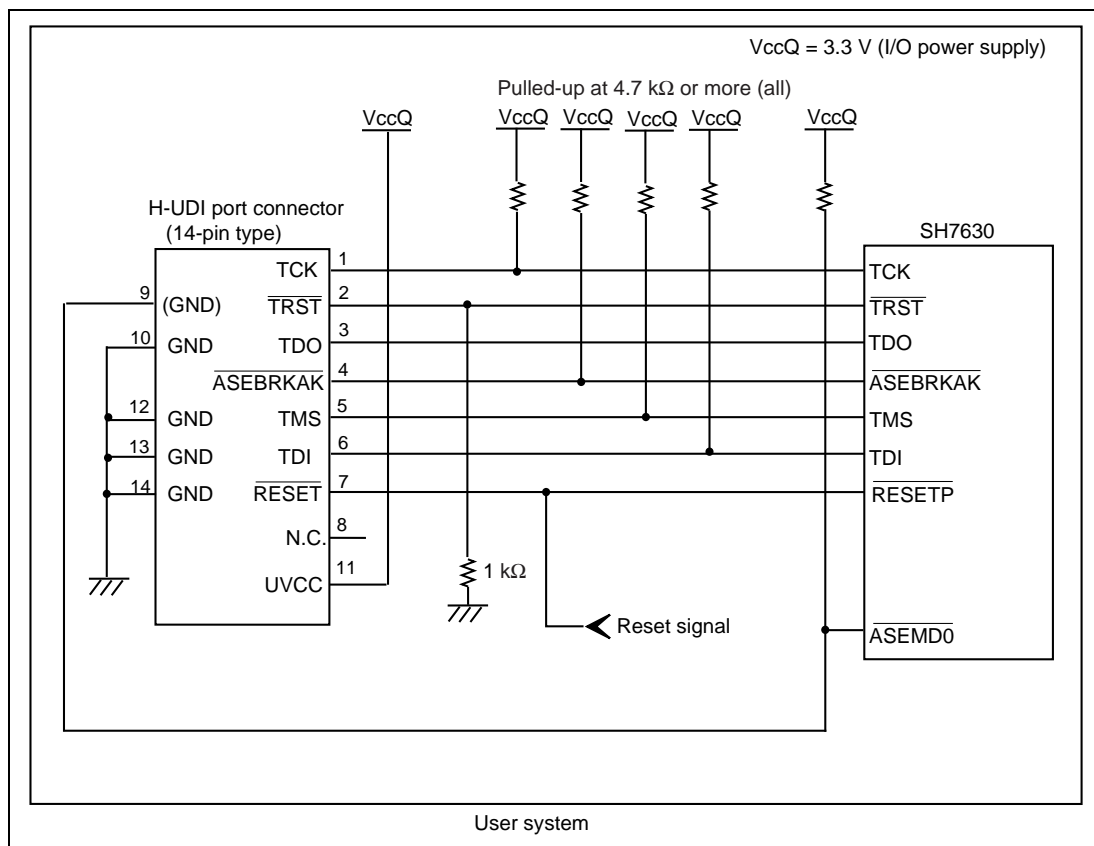
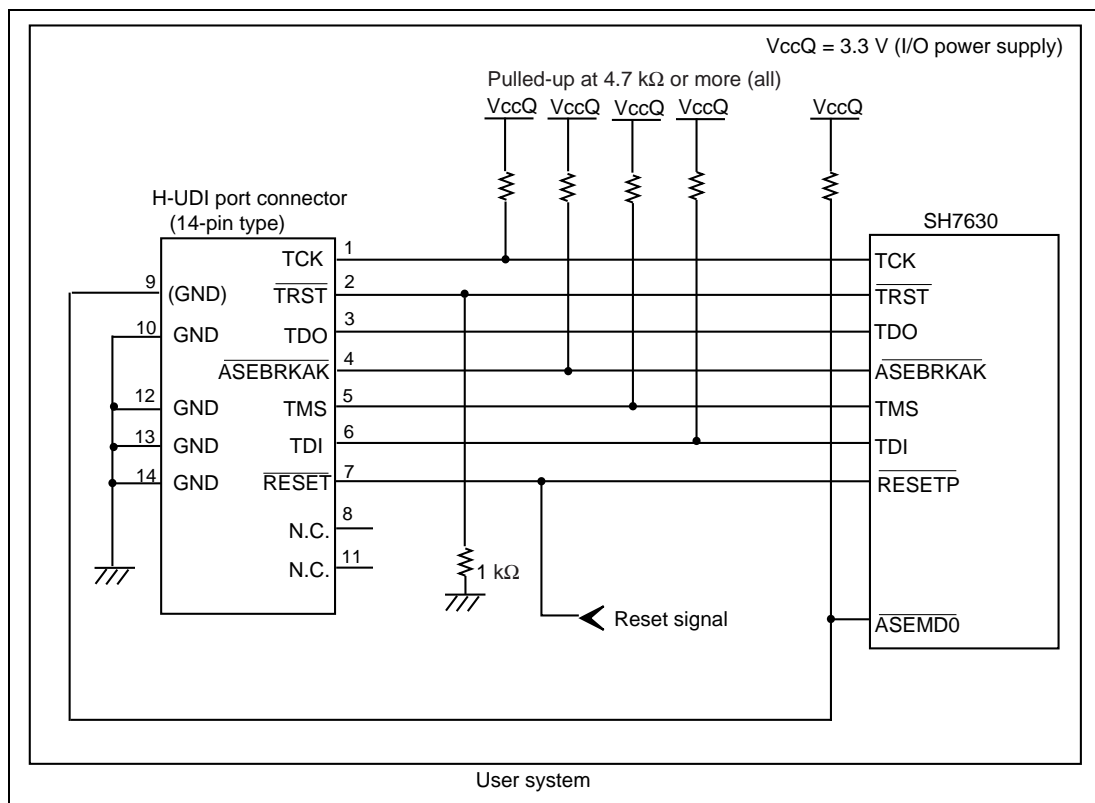

Figure 1.5 Recommended Circuit for Connection between the H-UDI Port Connector and MPU when the Emulator is in Use (14-Pin Type UVCC Connected)
Figure 1.6 Circuit for Connection between the H-UDI Port Connector and MPU when the Emulator is in Use (14-Pin Type UVCC Not Connected*)
Figure 1.5 shows a recommended circuit for connection between the H-UDI and AUD port connectors (14 pins) and the MPU when the emulator is in use. Figure 1.6 shows a circuit for connection when UVCC is not connected.
- (1) When the emulator is used: /ASEMD0 = 0 (ASE mode)
- (2) When the emulator is not used: /ASEMD0 = 1 (normal mode)Figures 1.5 and 1.6 show examples of circuits that allow the /ASEMD0 pin to be GND (0) whenever the emulator is connected by using the user system interface cable. When the /ASEMD0 pin is changed by switches, etc., ground pin 9. Do not connect this pin to the /ASEMD0 pin.
5. When the power supply of the user system is turned off, supplying VccQ of the user system to the UVCC pin reduces the leakage current from the emulator to the user system. A level shifter that is activated by the internal power supply or user power supply (changed by the switch) is installed in the interface circuit of the emulator. If the user power is supplied to the UVCC pin, the level shifter is not activated as long as no user power is supplied. When the power supply of the user system is turned off, no current flows from the user interface. The I/O voltage level of the user system interface can be the same as that of the VccQ. To operate the emulator with low voltage (lower than 3.3 V), the VccQ must be supplied to the UVCC pin. Make the emulator's switch settings so that the VccQ will be supplied (SW2 = 1 and SW3 = 1) (as shown in figure 1.5).
When the circuit is connected as shown in figure 1.5, the switches of the emulator are set as SW2 = 1 and SW3 = 1. For details, refer to section 3.8, Setting the DIP Switches, in the Debugger Part of the SuperH™ Family E10A-USB Emulator User's Manual.
When the circuit is connected as shown in figure 1.6, the switches of the emulator are set as SW2 = 0 and SW3 = 1. For details, refer to section 3.8, Setting the DIP Switches, in the Debugger Part of the SuperH™ Family E10A-USB Emulator User's Manual.